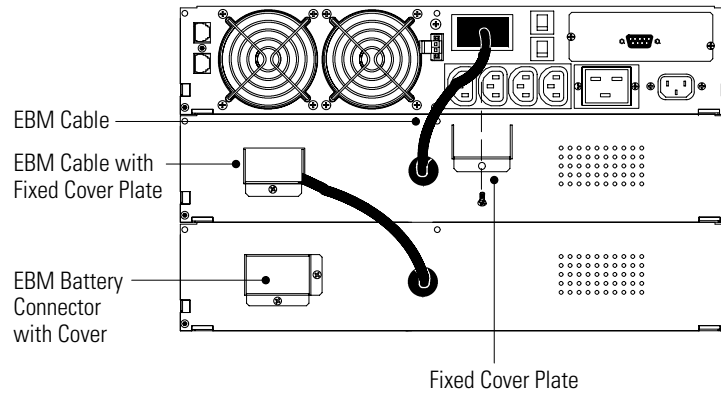

Figure 14. Typical EBM Installation for 230V Models
7. Plug the EBM cable into the UPS battery connector (see Figure 14).
8. Attach the fixed cover plate (supplied in the accessory kit) to the EBM cable as shown in Figure 14.